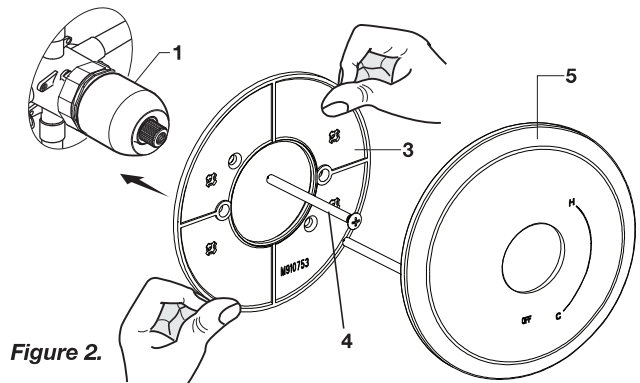

Figure 2.
- **Figure 2.** Push MOUNTING PLATE (3) onto CAP (1) and attach to valve body with LONG SCREWS (4).
- **Figure 2.** Push ESCUTCHEON (5) on to MOUNTING PLATE (3).